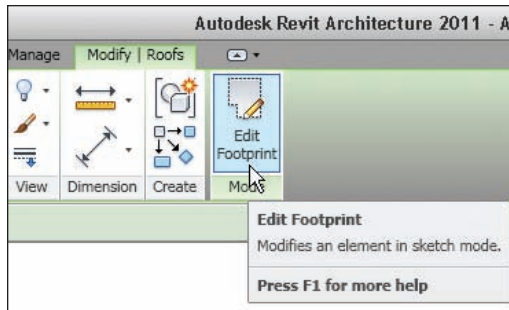

FIGURE 7.26 Selecting the roof and clicking the Edit Footprint button
2. On the Modify | Roofs tab, click the Edit Footprint button, as shown in Figure 7.26.